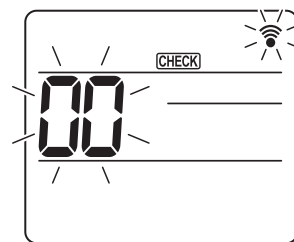
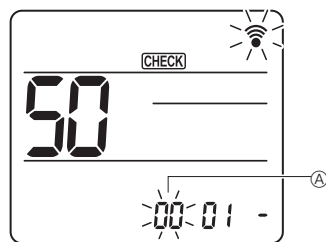
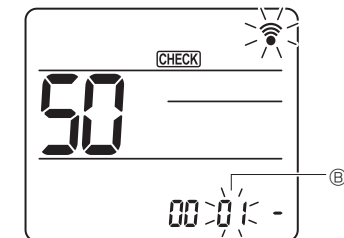
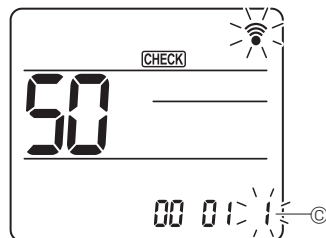

Fig. 6-14
Fig. 6-15
Fig. 6-16
Fig. 6-17
- ① Going to the function select mode
- [CHECK] is lighted and "00" blinks. (Fig. 6-14)
- ② Setting the unit number
- Press the [DOWN] button to set unit number A. (Fig. 6-15)
- ③ Select a mode
- Press the [DOWN] button to set Mode number B. (Fig. 6-16)
- ④ Selecting the setting number
- Use the [DOWN] button to change the Setting number C. (Fig. 6-17)
- ⑤ To select multiple functions continuously
- Repeat select ③ and ④ to change multiple function settings continuously.
- ⑥ Complete function selection